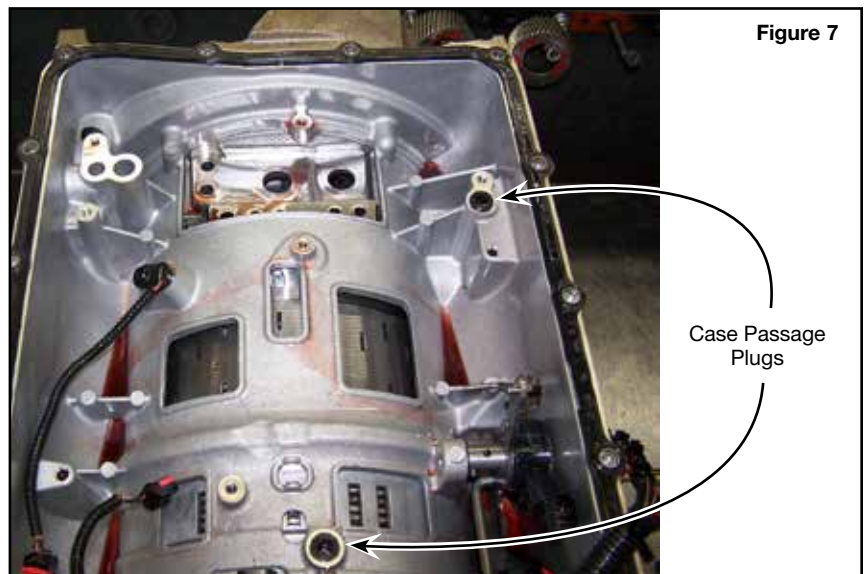

Figure 7
- Remove valve body from case. Keep track of case passage plugs, as these may stick to valve body (**Figure 7**).